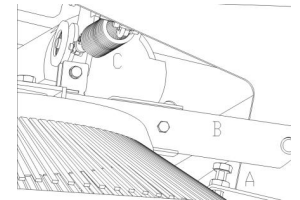

Figure 12
5. Adjust bolt A to make B fall to an appropriate position (FIG. 12);
6. Matching nut of locking bolt B (FIG. 12);